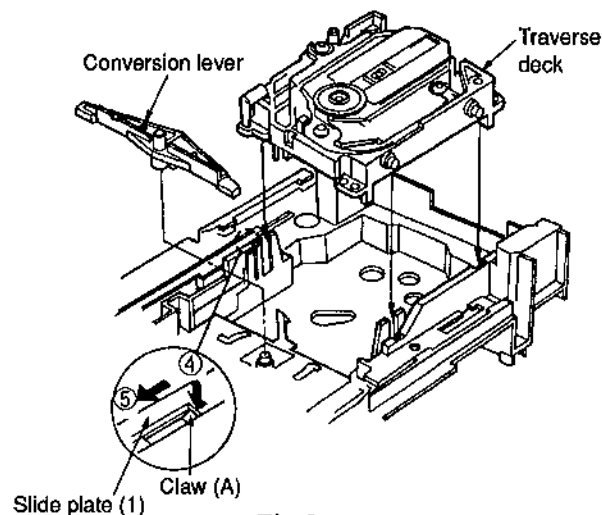
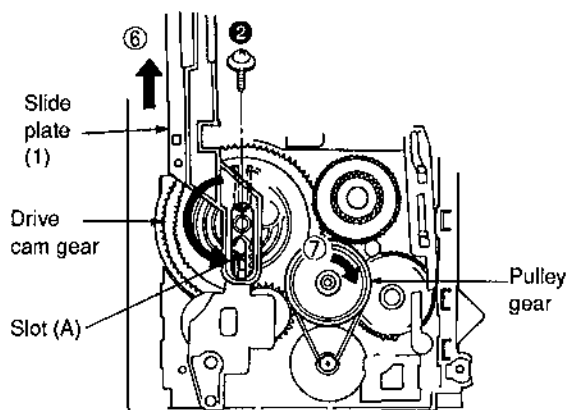

Fig.9
Fig.10
14. Press catch (A) in the direction of arrow (4) and then push slide (1) of the loading unit in the direction of arrow (5). (See Fig.9)
15. Install the traverse deck and the conversion lever. (See Fig.9)
16. Push slide plate (1) in the direction of arrow (6), so that the catch (A) in Fig.9 engages with slide plate (1).
17. Secure slide plate (1) with a screw (2).
18. Rotate the pulley gear in the direction of arrow (7) so that slot (A) of the drive cam gear is in the position shown in Fig.10.